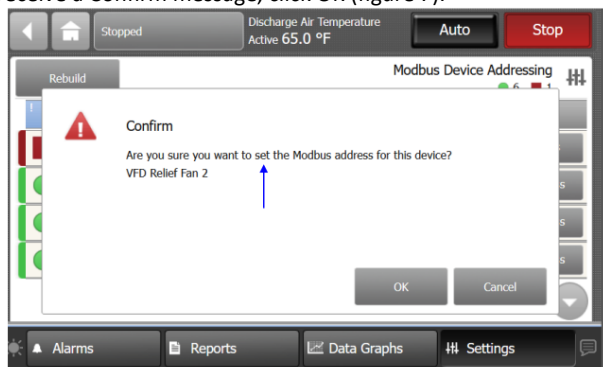

Figure 7:
- 2.6. You will receive a Confirm message, click OK (figure 7).